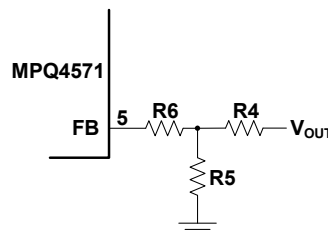

Figure 1: T-Type Feedback Network
8. The output voltage is set by the below T-type feedback network (see Figure 1).